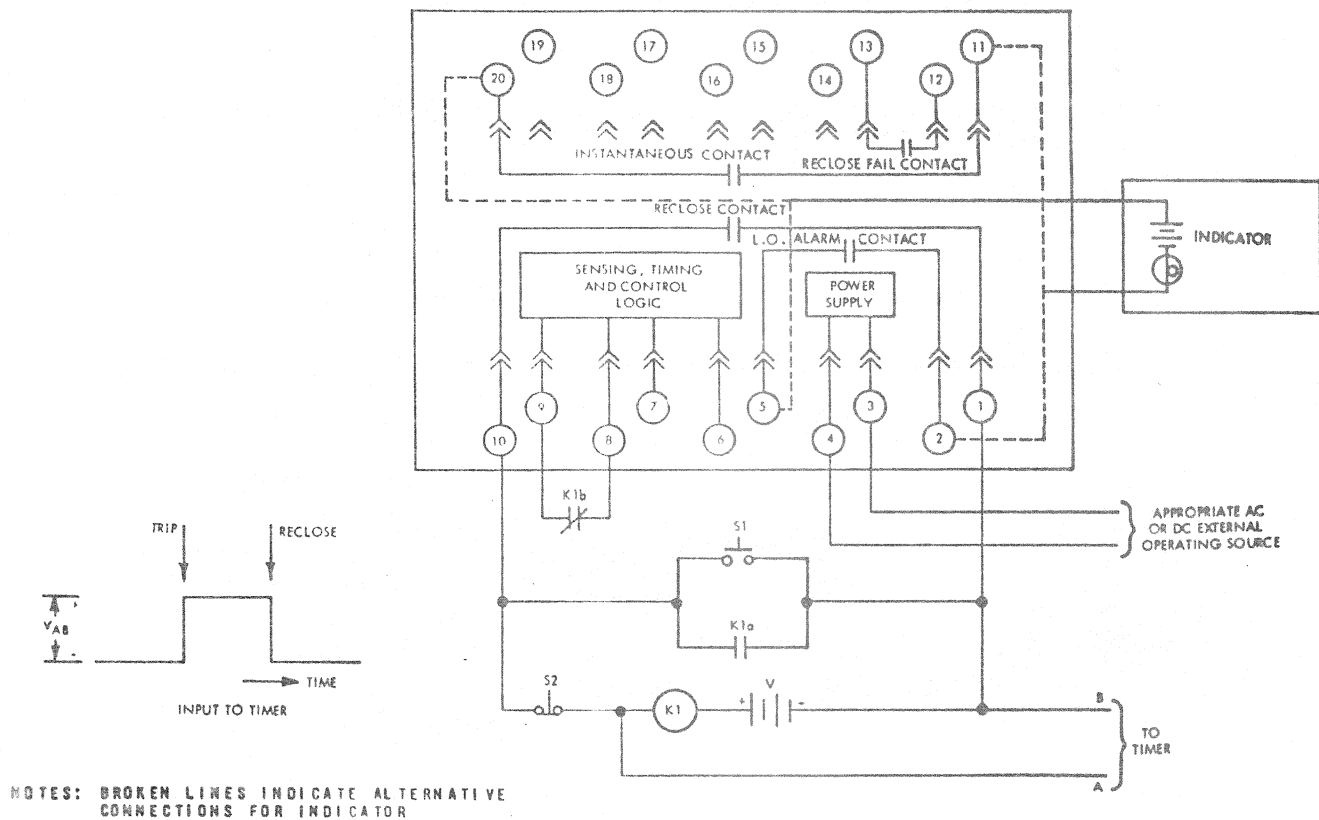

Figure 3-3. Test Setup
(See figure 3-3 for a typical test setup.)
- Step 6. Connect test setup as shown in figure 3-3.